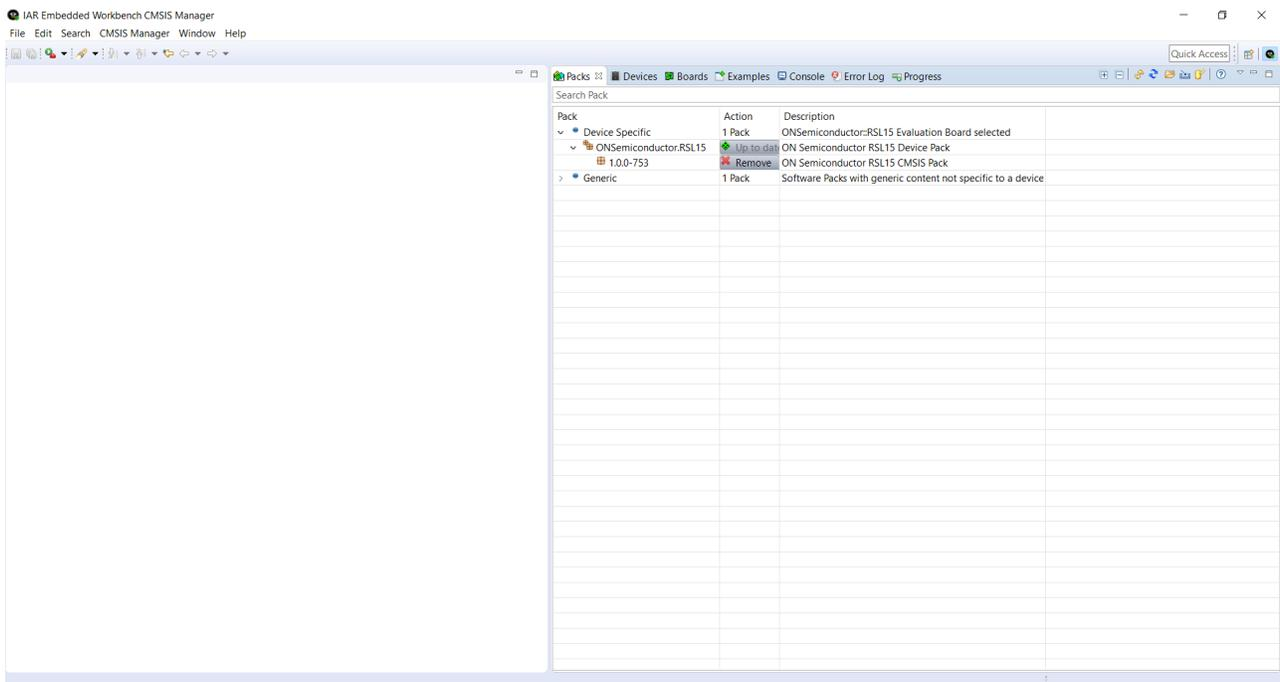

Figure 35. IAR Embedded Workbench CMSIS Manager after RSL15 CMSIS-Pack is Installed
6. In the **Devices** tab, expand **All Devices > ONSemiconductor > RSL15 Series**, and select **RSL15** from the list. The RSL15 CMSIS-Pack now appears in the list of installed packs in the **Packs** tab. Expanding **ONSemiconductor.RSL15** makes the **Pack Properties** tab display the details of the RSL15 CMSIS-Pack. The "IAR Embedded Workbench CMSIS Manager after RSL15 CMSIS-Pack is Installed" figure (Figure 35) illustrates what the **Pack Manager** perspective looks like after installation.